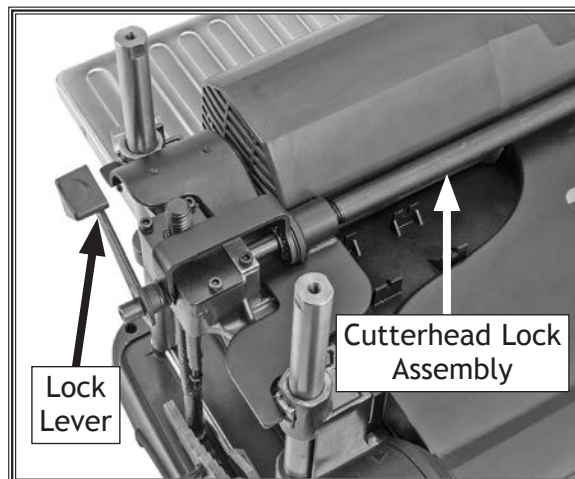

Figure 33. Cutterhead lock components.
3. Remove top cover and righthand side panel to reveal cutterhead lock assembly and lock lever (see **Figure 33**).